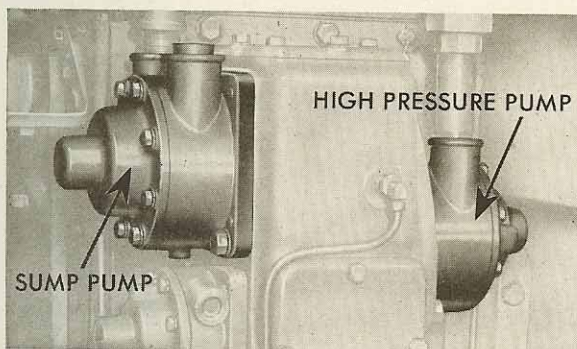
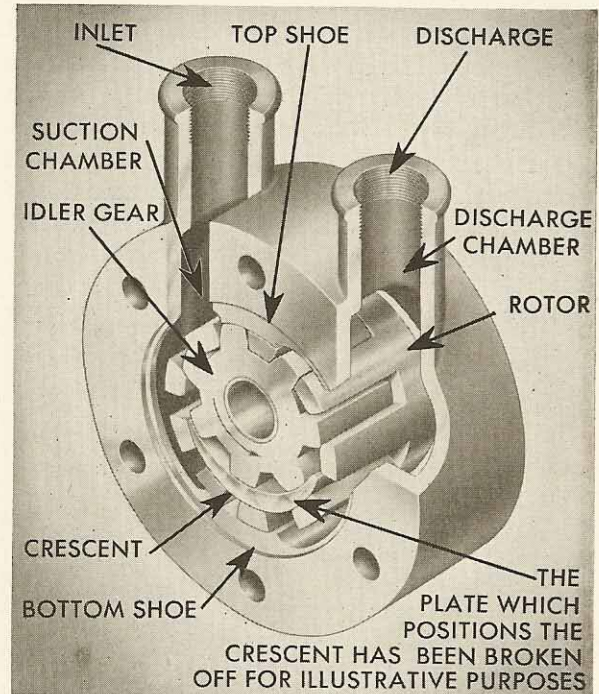

FIGURE 2-2
FIGURE 2-3
5. HIGH-PRESSURE PUMP: The high-pressure pump is mounted on the engine as shown in Figure 2-2. The construction of the pump is shown in Figure 2-3. As the pump is slightly below the level of the lube service tank draw-off or discharge opening, oil flows to the pump under a slight pressure. The job of the high-pressure pump is to boost this slight pressure to a pressure of 35 to 40 pounds and send the oil on through the pressure system.
The idler gear has teeth which fit into the slots in the rotor. Because the idler gear is mounted off center from the rotor and is smaller than it, some of the idler gear teeth are engaged in the rotor slots and some are out. As the rotor turns it causes the idler gear to turn because of the teeth that are engaged. But the idler-gear teeth are constantly entering, filling and then leaving these slots. Study of Figure 2-3